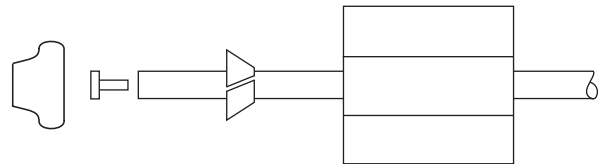

Figure 13
**NOTE:** Once the tubing has been pushed into the nut it cannot be pulled out. The nut will need to be removed. See Figure 13 for correct assembly.